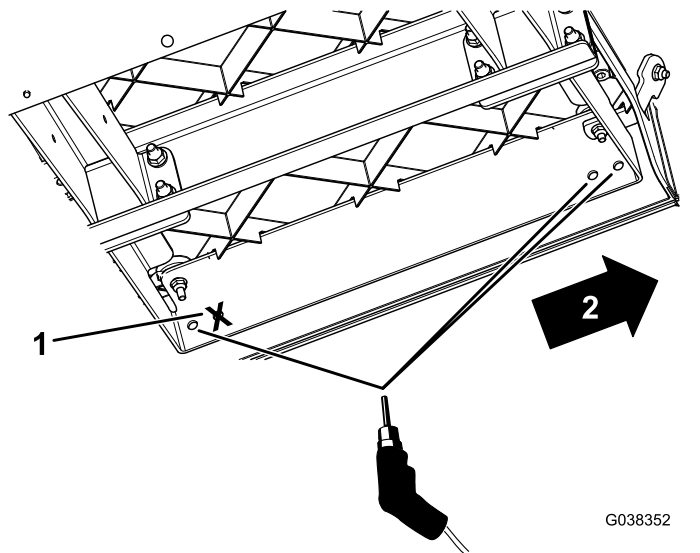

Figure 6
8. Using the new floor-plate supports as a guide, drill 3 holes (3/8-inch diameter) into each floor plate (Figure 6).
Important: Drill only the front 2 holes on the new floor-plate supports and the farthest, rear hole; as shown in Figure 6.